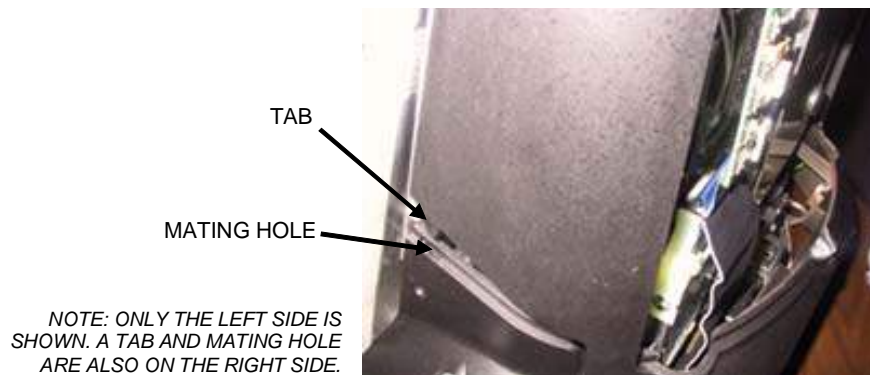

FIGURE 18 - SIDE VIEW OF GAME
43. Reconnect the ground wire to the rear cover and lower the cover into place, carefully lining up the two tabs on the cover with the two mating holes on the sides of the game (see Figure 18). Make sure that the plastic lip on the bottom of the rear cover is behind the metal base.